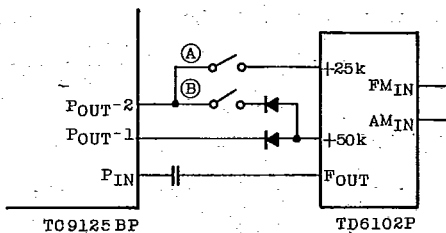

FIG. 9 CONNECTION FOR IF FINE ADJUSTMENT
3) Fig. 9 illustrates the connection of IF fine adjustment with 50 kHz channel step.
4) The connections to perform seven kinds of IF fine adjustments in Fig. 9 are as shown in Table 6.